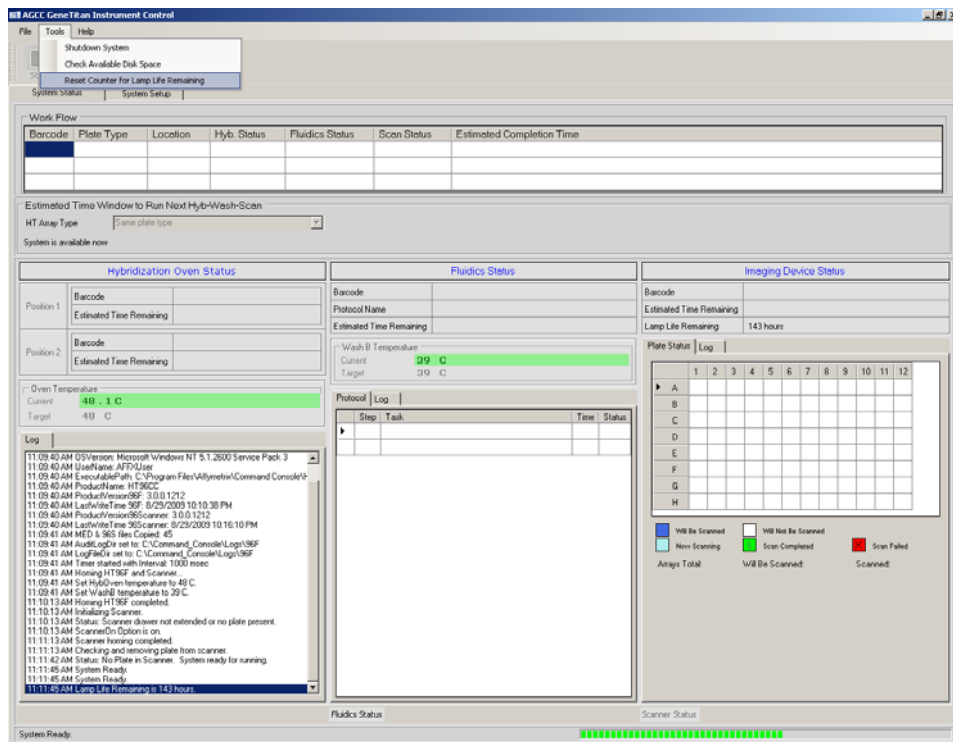

Figure 39 Inserting the lamp
1. On the software application click **Tools** → **Reset Counter for Life Remaining** (Figure 39).